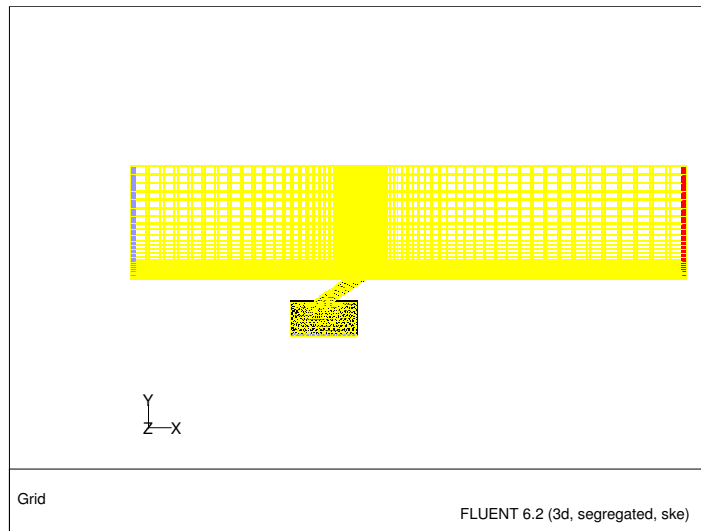

Figure 6.3: Hybrid Mesh for Film Cooling Problem
- 5. Display an outline of the 3D grid (Figure 6.3).